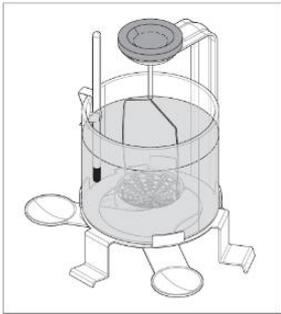

Figure 4.2-1
- Suspend a suitable holder from the bracket to ensure that it does not touch the wall of the beaker or the thermometer\*. If underload is displayed, use the offsetting weight as described in Chapter 1 (check figure 4.2-1 as an example).